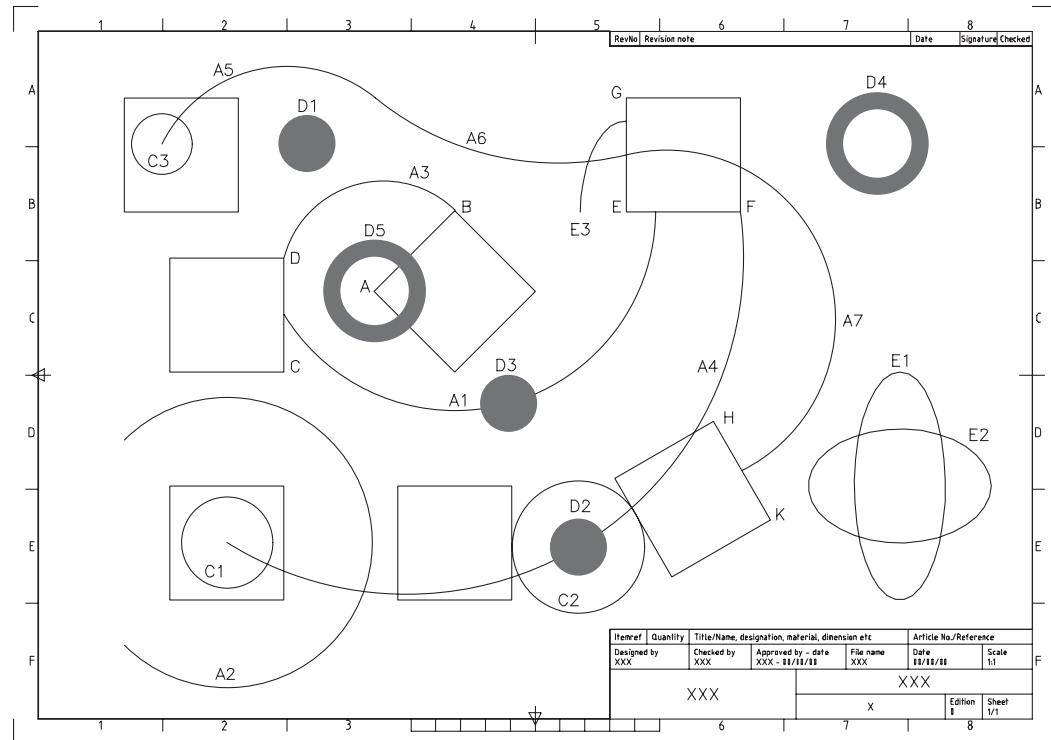

Figure 9.1 Creating arcs, donuts and ellipses using C:\MYCAD\WORKDRG.
- 3 Refer to Figure 9.1 and activated the Draw, Modify and Object Snap toolbars.